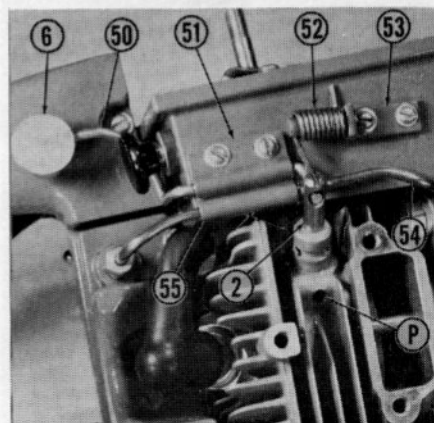

Fig. HL115—View showing compression relief mechanism; all models except XL-101 and XL-102 Automatic are so equipped.
COMPRESSION RELIEF VALVE. Except for models XL-101 and XL-102 Automatic, all models are equipped with compression relief valve for easier cranking. When throttle lock (6—Fig. HL115) is pushed in, lever (50) lifts plunger (2) against spring (52) pressure. Then, when engine is cranked, compression is partly relieved through port (P). Squeezing throttle trigger after engine starts releases throttle lock allowing spring to close valve.